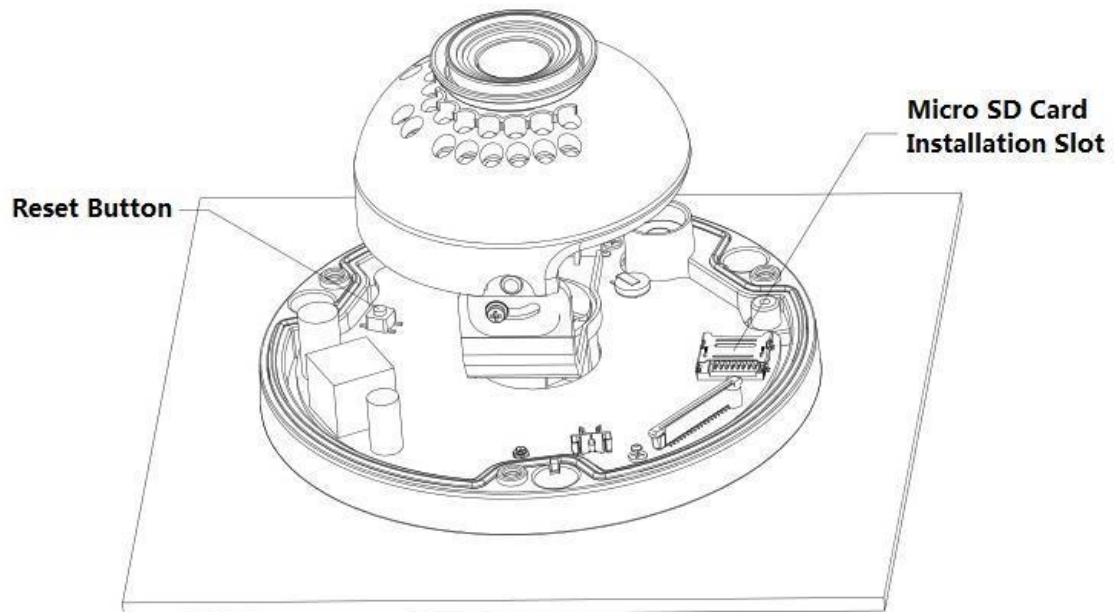

Figure 2-3
Install Micro SD card (optional), which is shown in Figure 2-3.
- Long press the “Reset button” shown in Figure 2-3 for 10 seconds when the device is power on if the device needs to restore to factory setting.
- If the device needs to use WPS function, please short press the “Reset button” shown in Figure 2-3 for 1~2 seconds when the device is power on, press the WPS button of the router, generally the device can connect to corresponding router within 1 minute (only supported by some models).